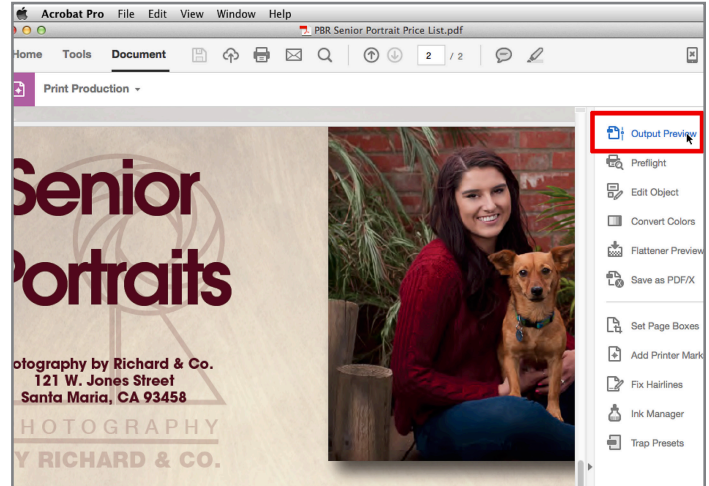
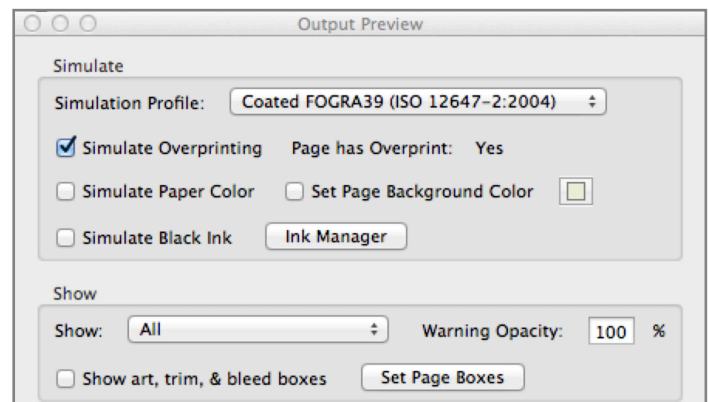

Figure 52
Figure 53
4. In the next window that appears (Print Production), Select Output Preview at the top right (Figure 52). A dialog box will appear. (Figure 53).
5. Select the profile you wish to use to soft proof in the Simulation Profile menu pulldown (Figure 53). If you want to see how the color of the paper will change the color on the page(s), click the Simulate Paper Color check box.